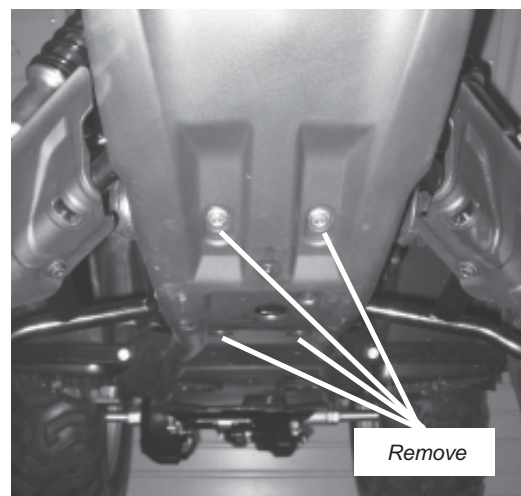

Figure 3 Front Skid Plate Bolts
3. Remove the four 6mm bolts that secure the front skid plate, figure 3. Save the fasteners as they will be reinstalled later.